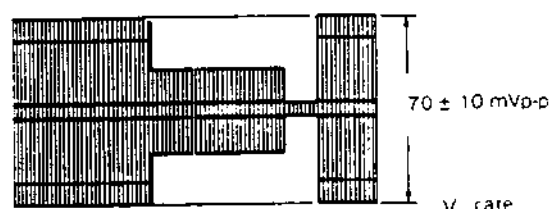

Fig. 2-5-7
- 3) Adjust R246 for 560 +/- 10 mVp-p, as in Fig. 2-5-7.